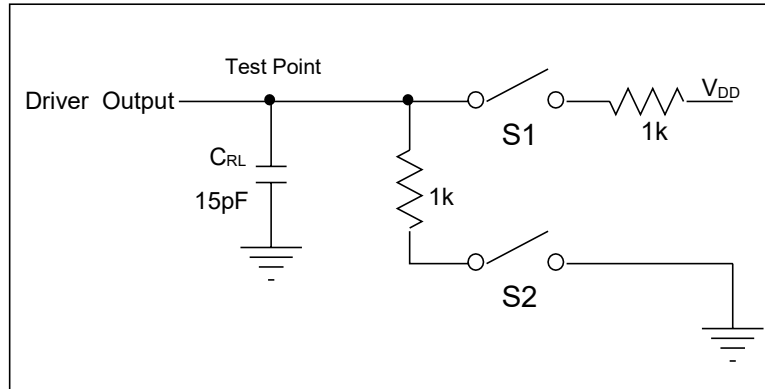

Figure 5 Receiver Enable/Disable Timing Test
- Test circuit diagrams see Figure 5